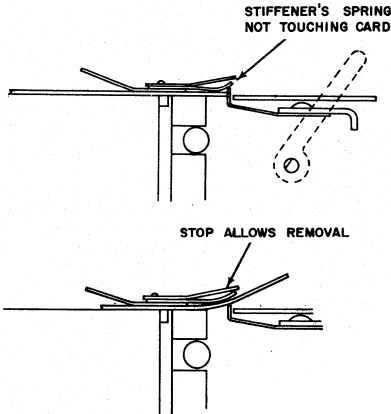

Figure 29
- Adjust the card stiffener springs (Figure 29) so they are moved slightly by the card stops as the card release lever is raised. The card stiffener springs should not touch the card. Reform if necessary. Adjust the stops above the springs to allow the springs to move upward for easy removal of the tab card with the card release lever up.